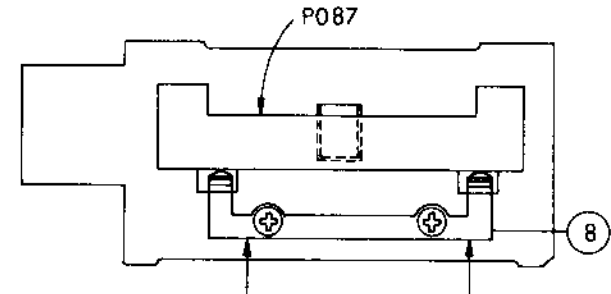

Fig. 27
2. Set the lateral guide fixing gauge (P087) to 14 as shown in Fig. 27, and install by pushing 8 in the direction of arrow mark.